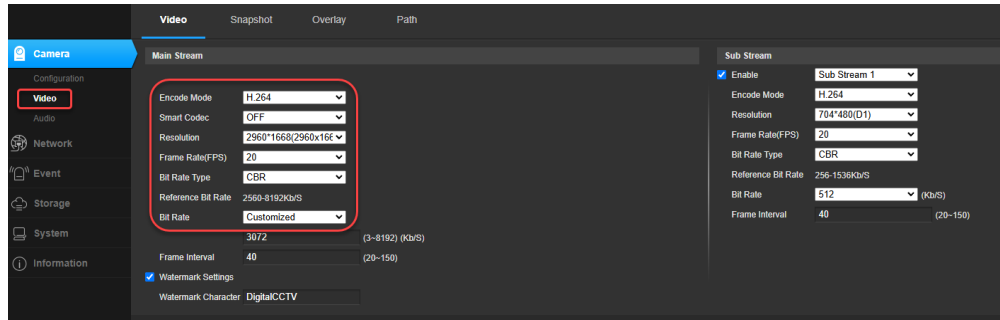

Fig. 2.6
5. Go to Camera>Video. Under the Main Stream section (Fig. 2.6), modify/verify the following fields: